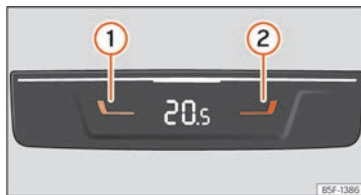

Fig. 154 In the rear part of the centre console: controls for the rear seats.
- Press buttons ① and ② »» **Fig. 154** to adjust the temperature of the rear zone.